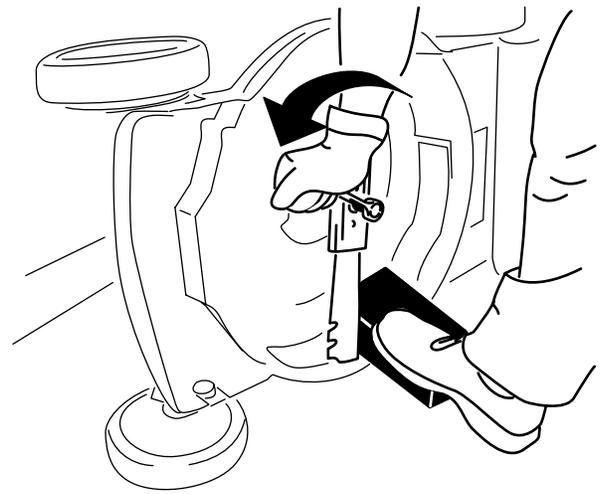

Figure 18
2. Use a block of wood to hold the blade steady (Figure 18).
3. Remove the blade bolt, bracket, and blade; save the bracket and blade bolt (Figure 18).